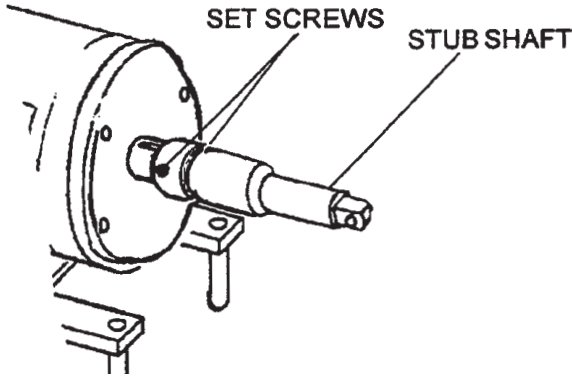

Figure 12
- Loosen the two setscrews securing the stub-shaft to the motor shaft (see Figure 12). Carefully remove the stub-shaft. The stub-shaft is a tight fit, but can be removed by applying pressure around the periphery of the shaft with a pry bar.